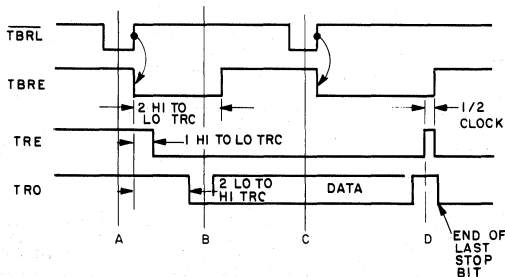

Fig. 3 - Transmitter timing waveforms.
Transmitter timing is shown in Fig. 3. (A) Data is loaded into the transmitter buffer register from the inputs TBR1 through TBR8 by a logic low on the TBRL input. Valid data must be present at least  $t_{DT}$  prior to, and  $t_{TD}$  following, the rising edge of TBRL. If words less than 8 bits are used, only the least significant bits are used. The character is right justified into the least significant bit, TBR1. (B) The rising edge of TBRL clears TBRE. One Hi to Lo transition of TRC later, data is transferred to the transmitter register and TRE is cleared. TBRE is reset to a logic High one Hi to Lo transition after that. (C) A second pulse on TBRL loads data into the transmitter buffer register. Data transfer to the transmitter register is delayed until transmission of the current character is complete. (D) Data is automatically transferred to the transmitter register and transmission of that character begins.